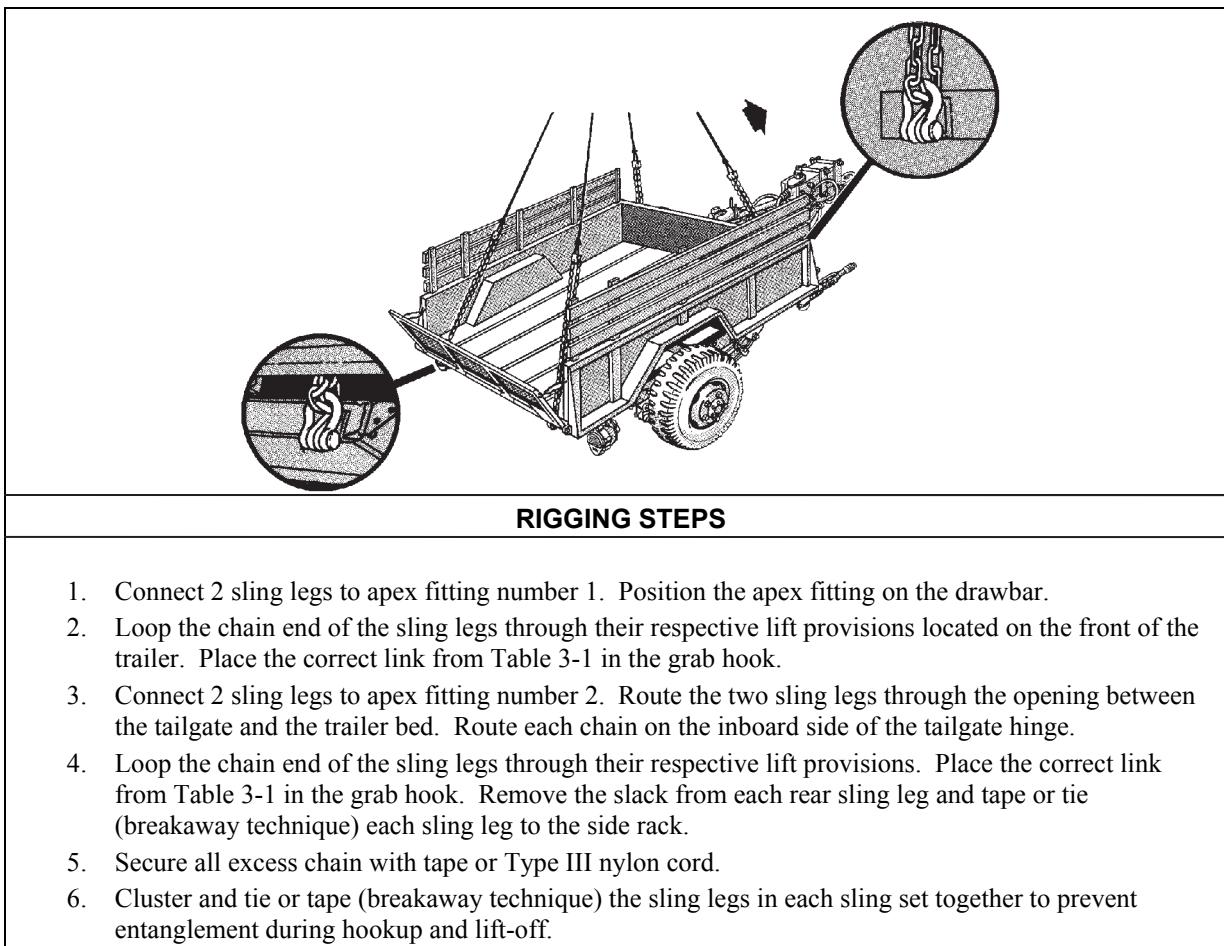

Figure 3-1. M101A2 3/4-Ton Trailer
- **Rigging.** Rig the load according to the steps in Figure 3-1.